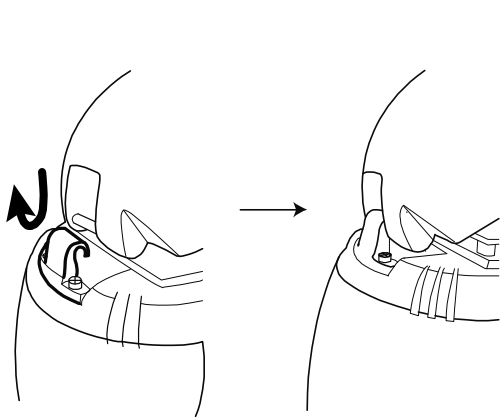

Figure 4
- Step 4: Hook the camera and the bracket. (Please refer to *Figure 4*)